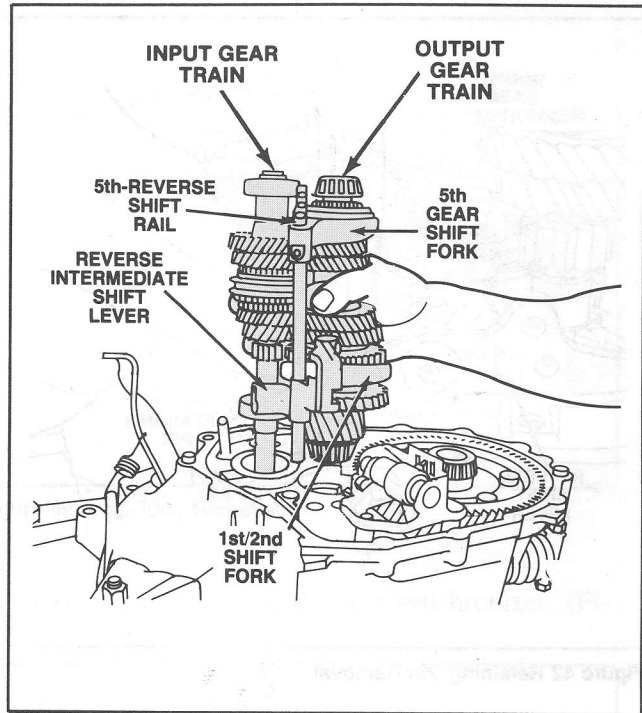

Figure 48 Gear Train Removal
18. Remove the input gear train, output gear train and fifth/reverse shift rail, as an assembly. (Figure 48).